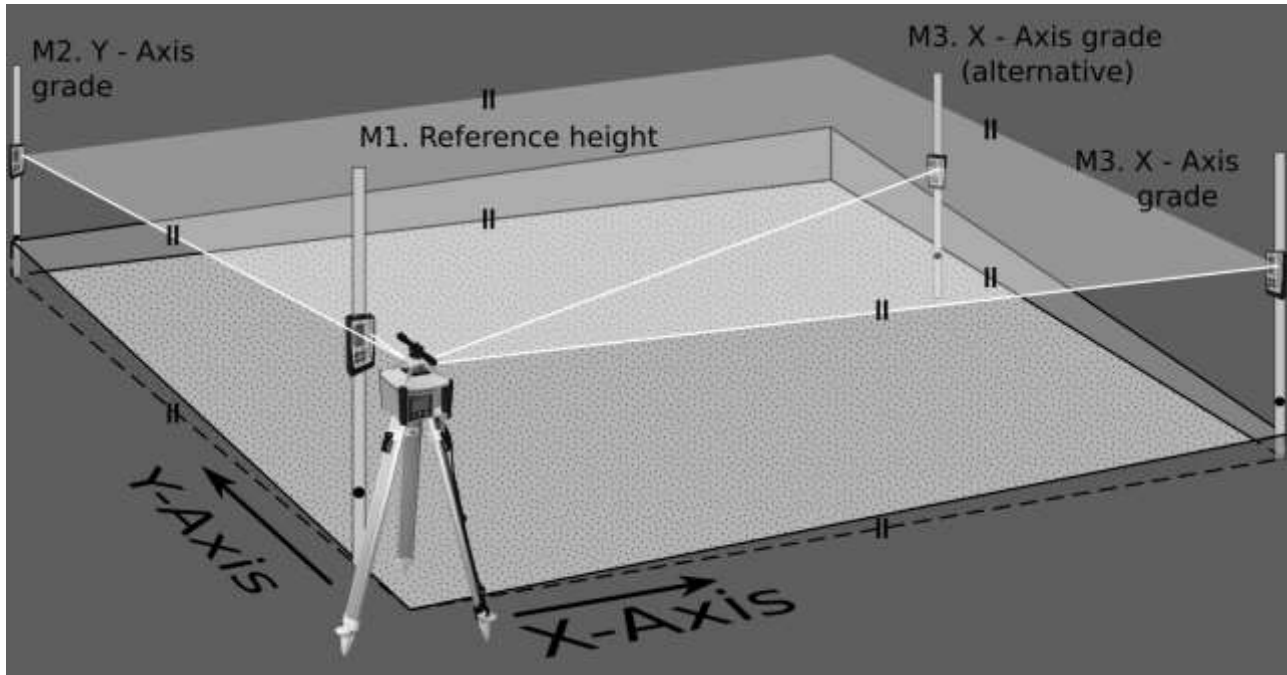

Figure 1: ALIGN setup – Horizontal
First set up the static head horizontally, as described under Section 4 and set the laser in the Y direction flush with the first target point M2 (Figure 1). Use the telescopic sight (option) if the determined grade values are to be as accurate as possible.
Then set up the laser yardstick with the detector as short a distance away from the laser as possible (Figure 1: M1 reference height) and switch on both devices as described in Sections 1 and 11.2 and place the detector centre level with the laser beam.
**12.1.2.1 Slope Y axis (Figure 1)**
### 12.1.2.2 Slope Y- and X - axis (Figure 1)